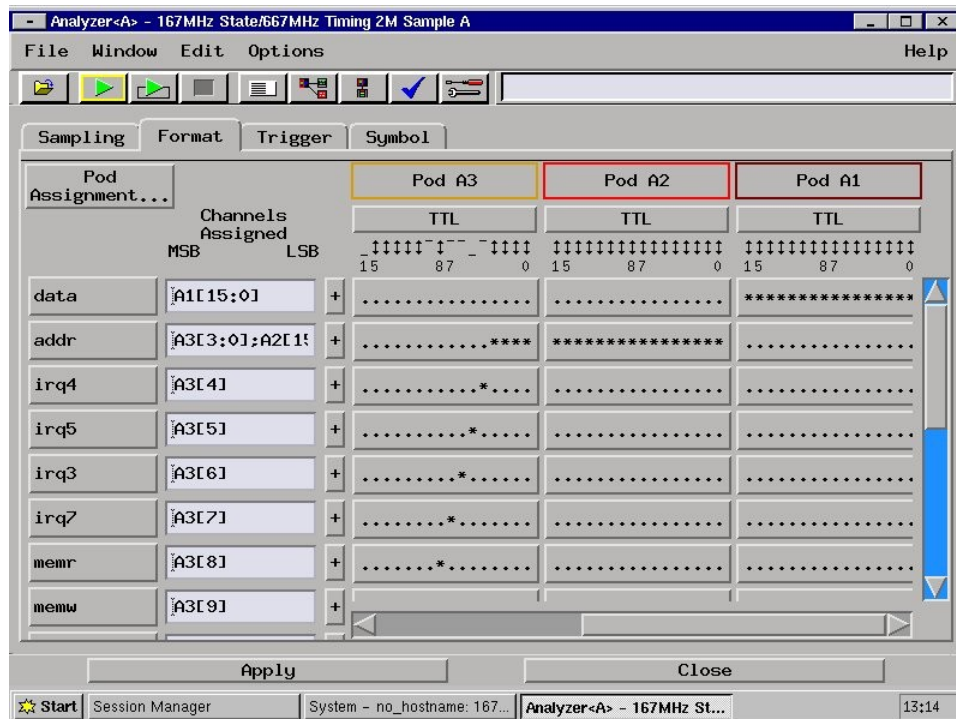

Figure 3 – Example pin assignments screen
- i) Familiarize yourself with what is on the screen of the logic analyzer. You will notice labels running down the left of the screen (see Figure 3)
Note the following about Figure 3: